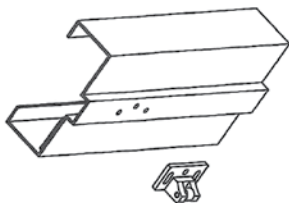

Figure 12
6. Mark mounting holes for top strike on stop face of the top frame as shown by Strike Template (See Figure 12), then fasten with supplied screws (See Figure 13).